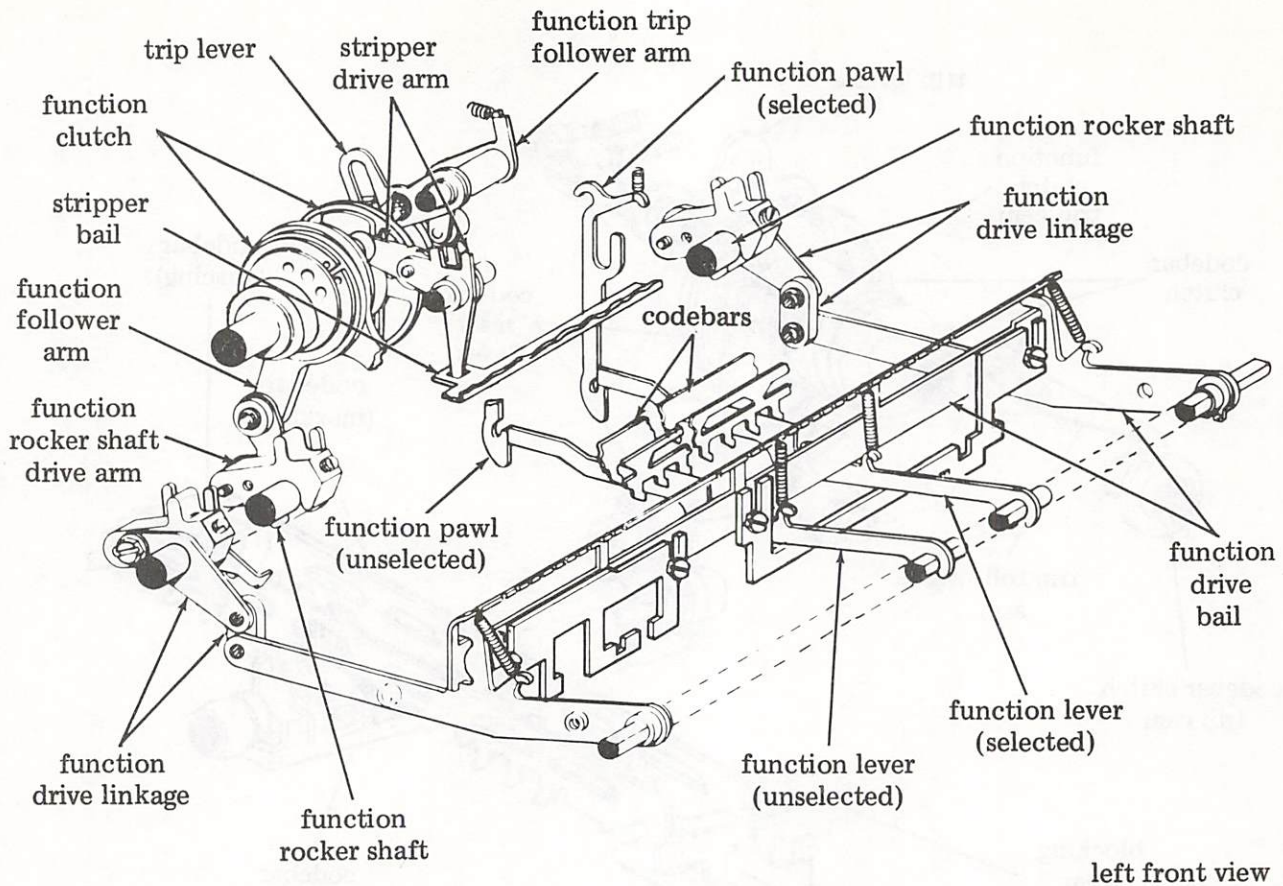

Figure 24 - Function Mechanism
4.50 The function mechanism illustrated in Figure 24 enables the typing unit to perform functions at the receipt of the proper code combinations. Functions are operations supplementary to printing a message, such as carriage return and line feed.
4.51 Early in the codebar cycle, a cam pivots the function trip follower arm, which moves the function trip lever out of engagement with its shoe lever. The function clutch engages and makes one complete revolution. The function drive cam, through a follower arm and drive arm, causes the function rocker shaft to rock. The function rocker shaft, through two drive linkages, moves a function drive bail up during the first part of the cycle and down during the middle portion (Figure 24).